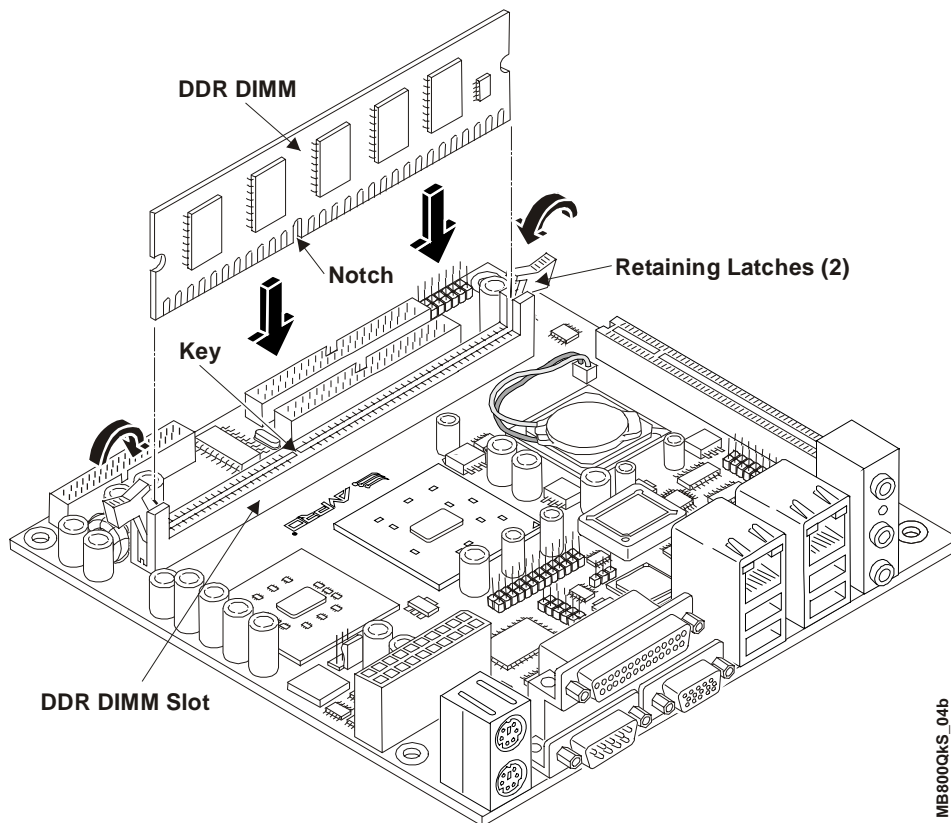

Figure 2-3. Installing DDR DIMM into Slot
8. Align the notches on the DDR DIMM with the key on the DIMM slot, holding the DIMM at a 90° angle to the board. See Figure 2-3.
9. Insert the DIMM fully into the slot, handling the DIMM by its edges. See Figure 2-3.